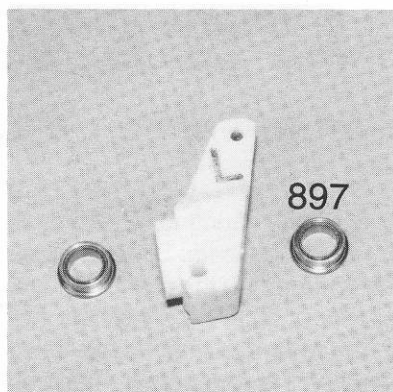

**Fig. 94**
□ **Fig. 94** In bag #6-8 you will find four #6280 8-32 x 1/2" aluminum FHMScrews. Start by mounting the left hand rear suspension assembly onto the chassis. Slide the front edge of the #6360 rear mount underneath the rear bulkhead. This will line up the two rear mounting holes with the two holes in the chassis. Fasten the mount to the chassis using two of the #6280 FHMScrews. On the rear screw thread on the #8182 aluminum plain nut from bag #6-8. Now mount the right side parts the same way.